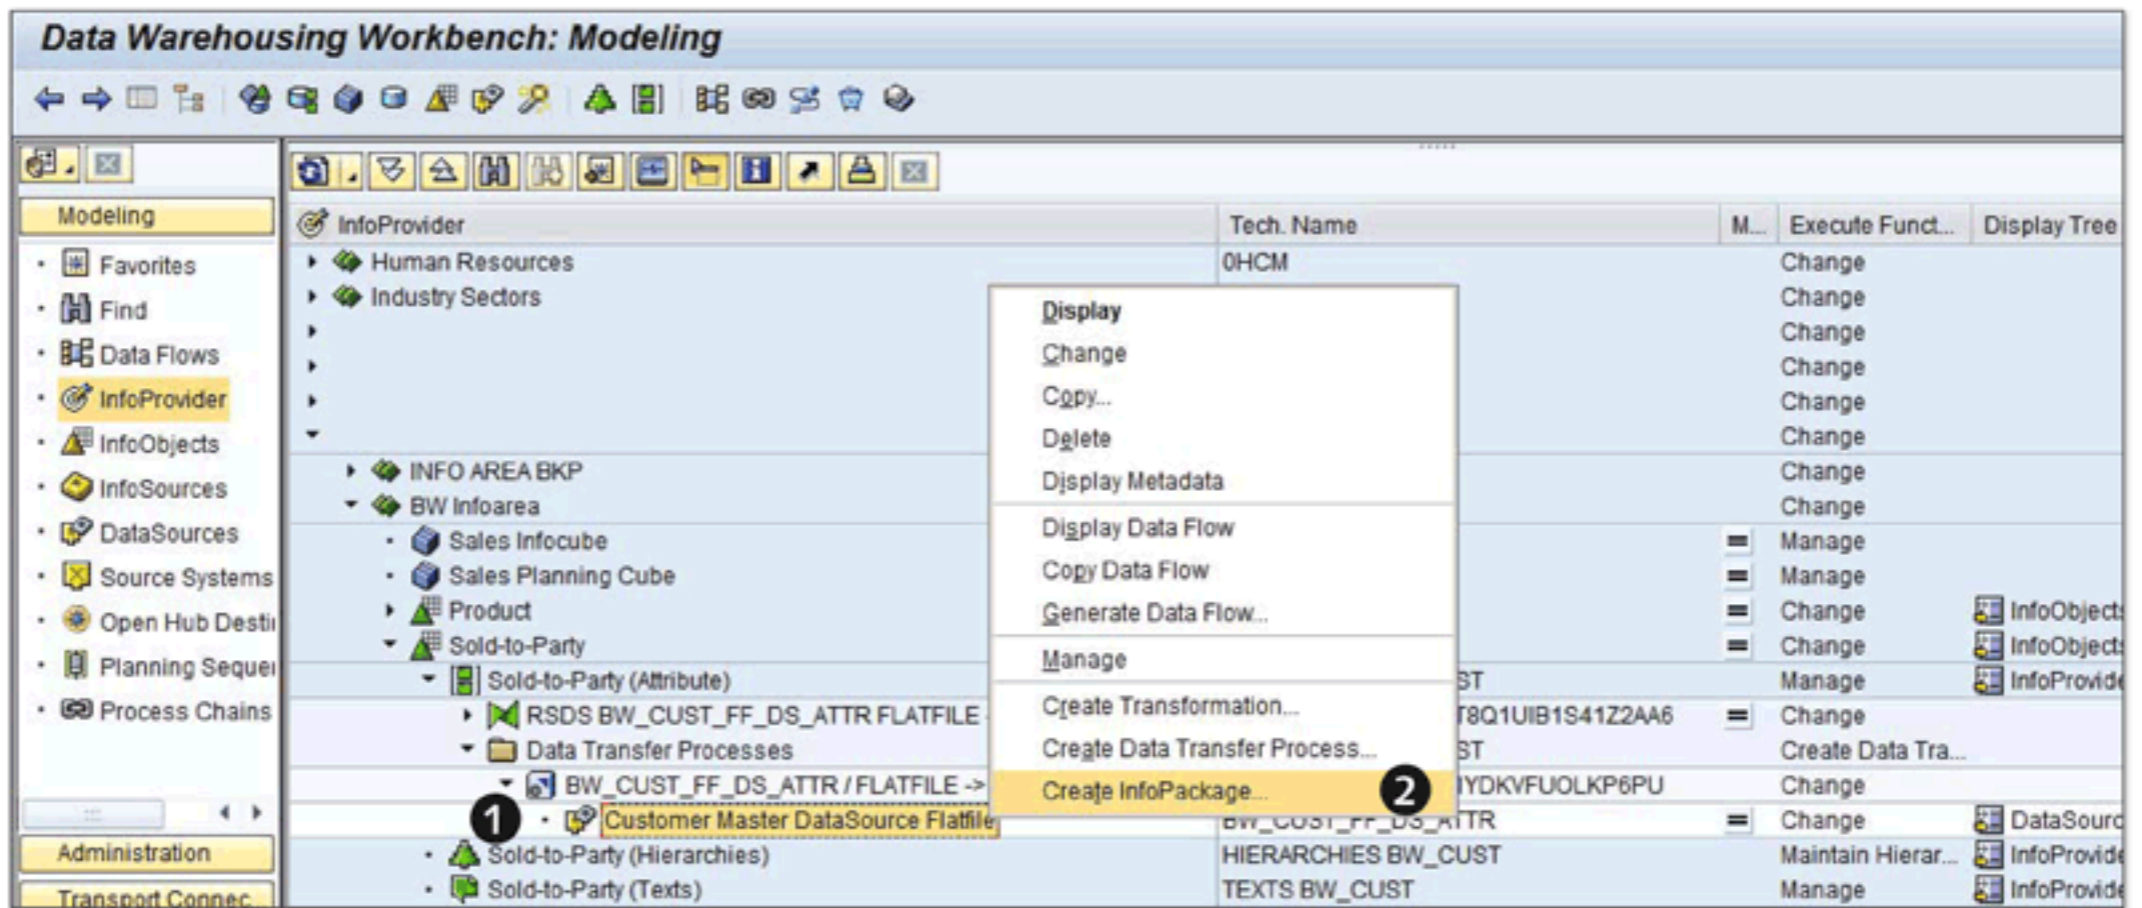

Figure 7.30 Creating an InfoPackage
An InfoPackage is a scheduler object that, when executed, instructs SAP NetWeaver BW to extract data from a source system. It stores the extracted data in the first layer of SAP NetWeaver BW, which is the PSA. To create an InfoPackage, select the DataSource from the source system under which you want to create it. For our example, select DataSource BW_CUST_FF_DS_ATTR, which is attached to the FLATFILE, as shown in ❶ of Figure 7.30.